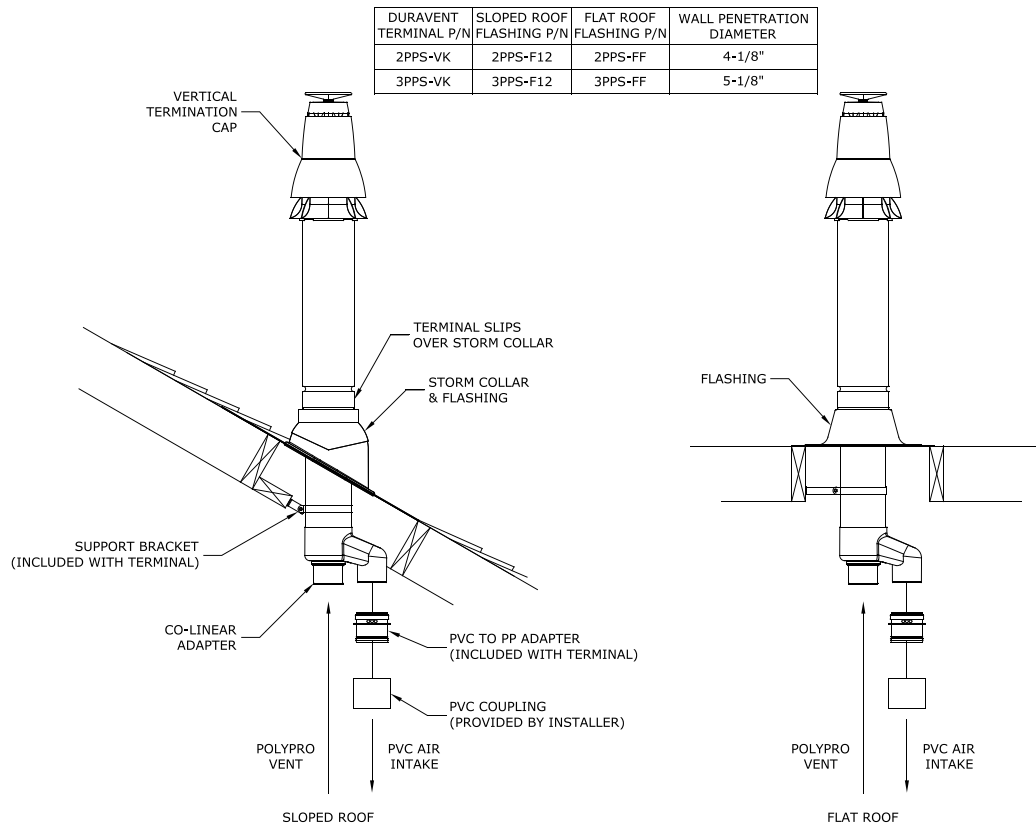

Figure 7.40: Installation of DuraVent PolyPro Concentric Terminal Through Roof
7. Vertical Installations using PolyPro Vertical Concentric Termination Kit #2PPS-VK or #3PPS-VK (Figure 7.40):
- b. Use a roof flashing and storm collar to prevent moisture from entering the building. See Figure 7.40 for the model number of the flashing to be used depending on the type of roof. Seal the roof flashing to the roof using generally accepted practice for the type of roof on the installation.